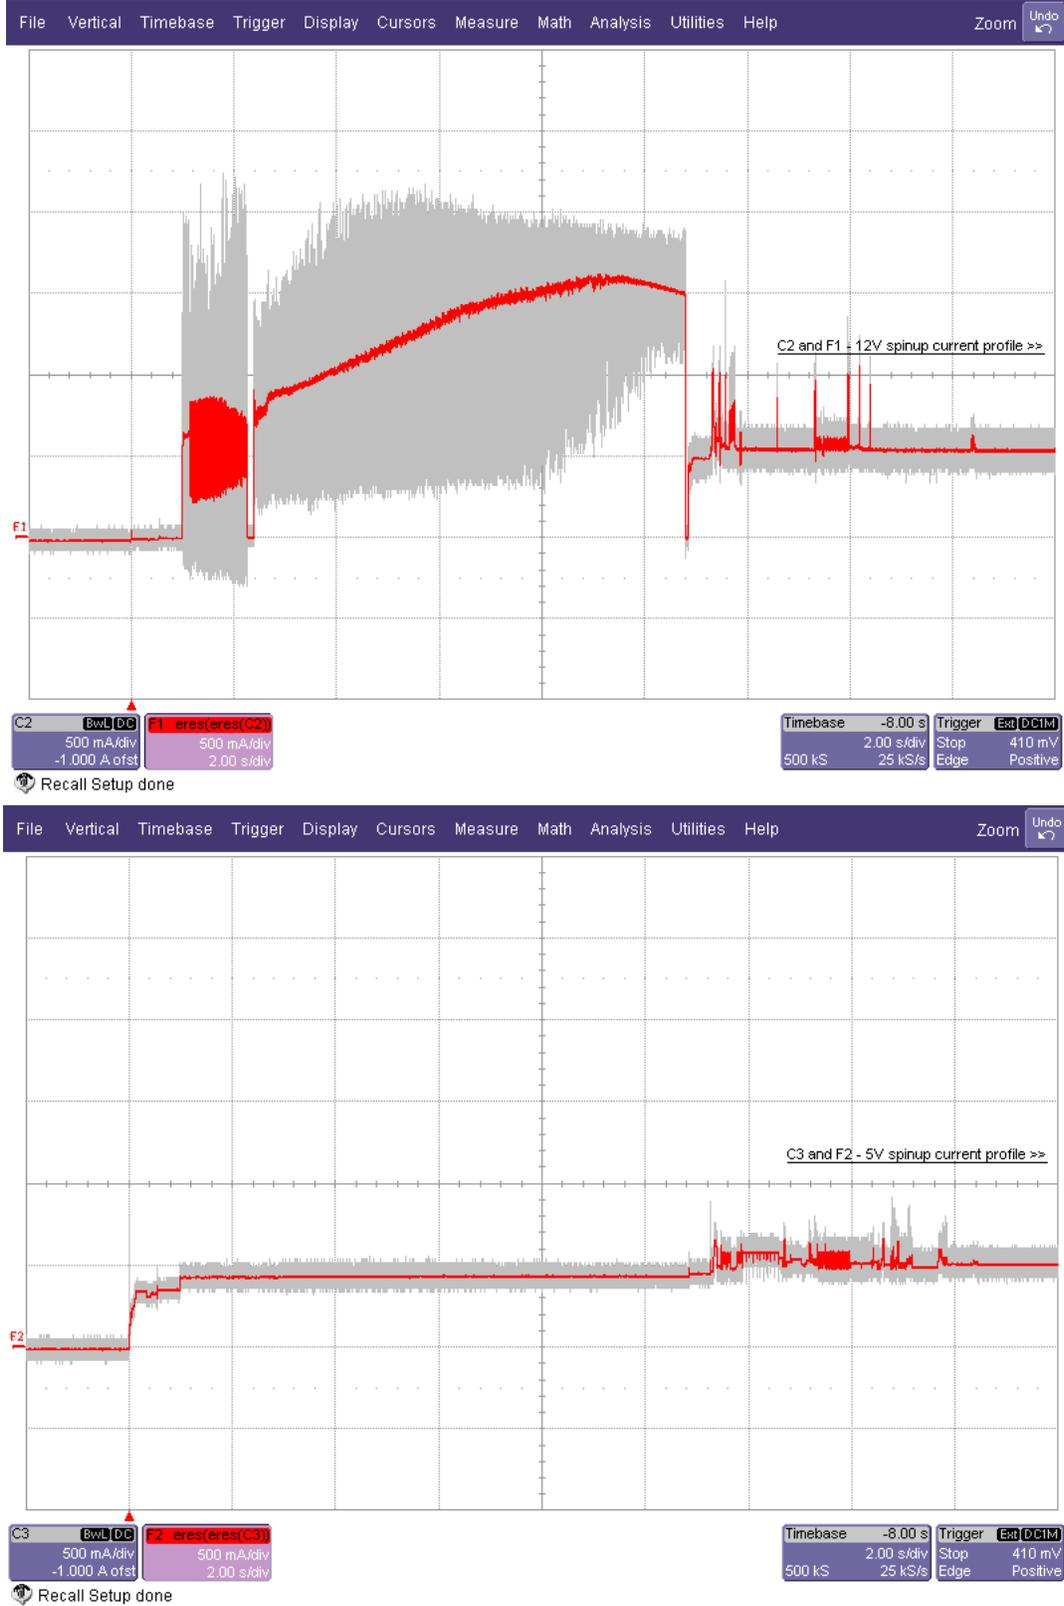

Figure 1. 3TB model current profiles
- [5] See +12V current profile in Figure 1.